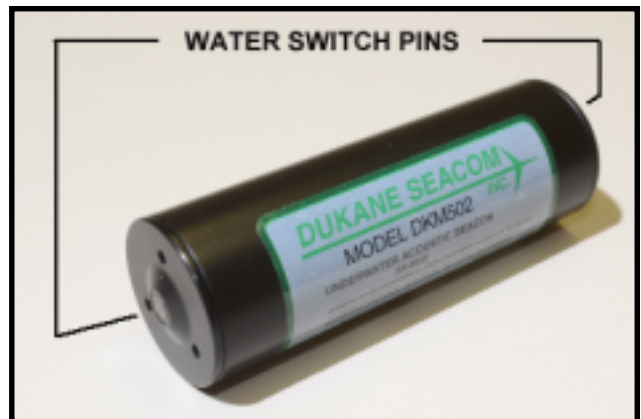

Figure 1. Water Switch Location
1.2.3. BEACON SIGNAL. The beacon is a battery-powered device, which radiates a pulsed acoustic signal into the surrounding water upon activation by its water-sensitive switch pins located at each end of the beacon. See Figure 1. Search operations in water for beacon equipped vessel, can be conducted by utilizing a portable receiver equipped with a directional hydrophone such as the Seacom Model N30A5B Series Locator. This receiver system is operable from small boats or by free-swimming SCUBA divers. Vessels lost in deep water, i.e., in excess of 1829 meters, require special search gear. Beacon Specifications are listed in Table 1.